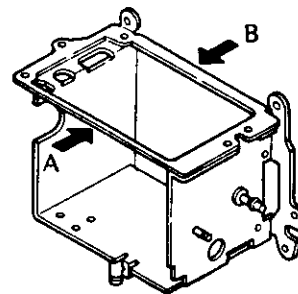

Fig. 25
- (ii) When the arrow portion of the mirror box (see Fig. 25) is bent, the PRISM FRAME (No. 6) can not place in the mirror box.